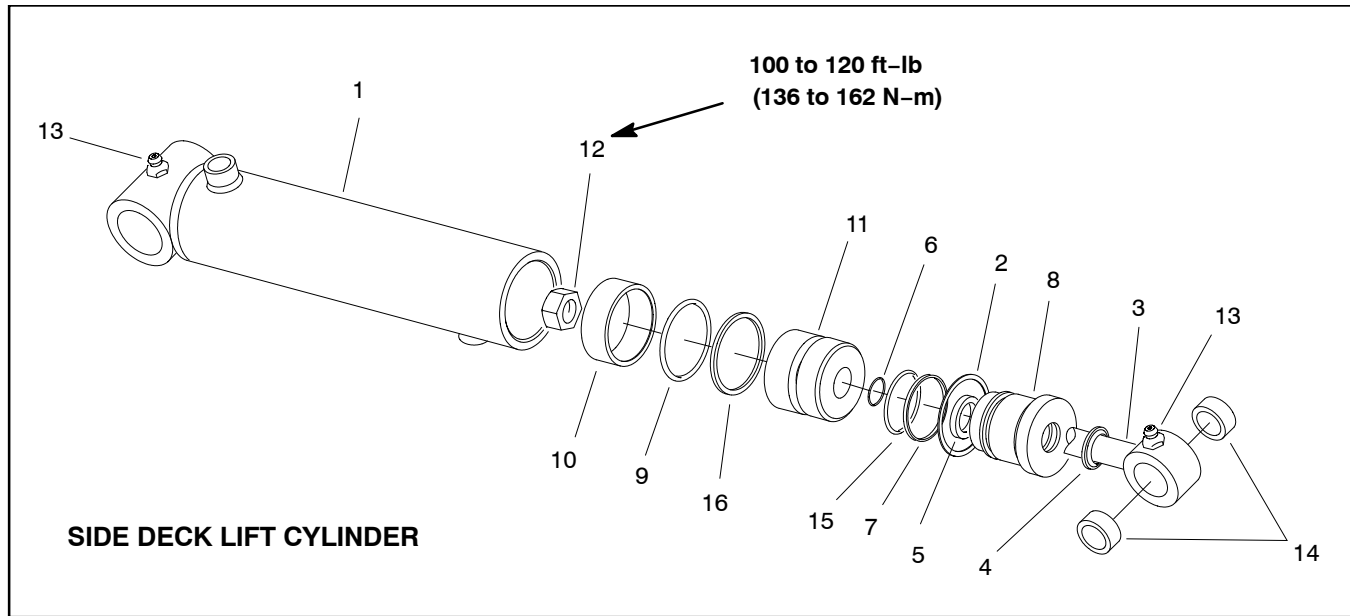

Figure 80
Disassembly (Figs. 80 and 81)
Assembly (Figs. 80 and 81)
C. Torque lock nut to specification in Figure 80 (side deck cylinder) or 81 (front deck cylinder).